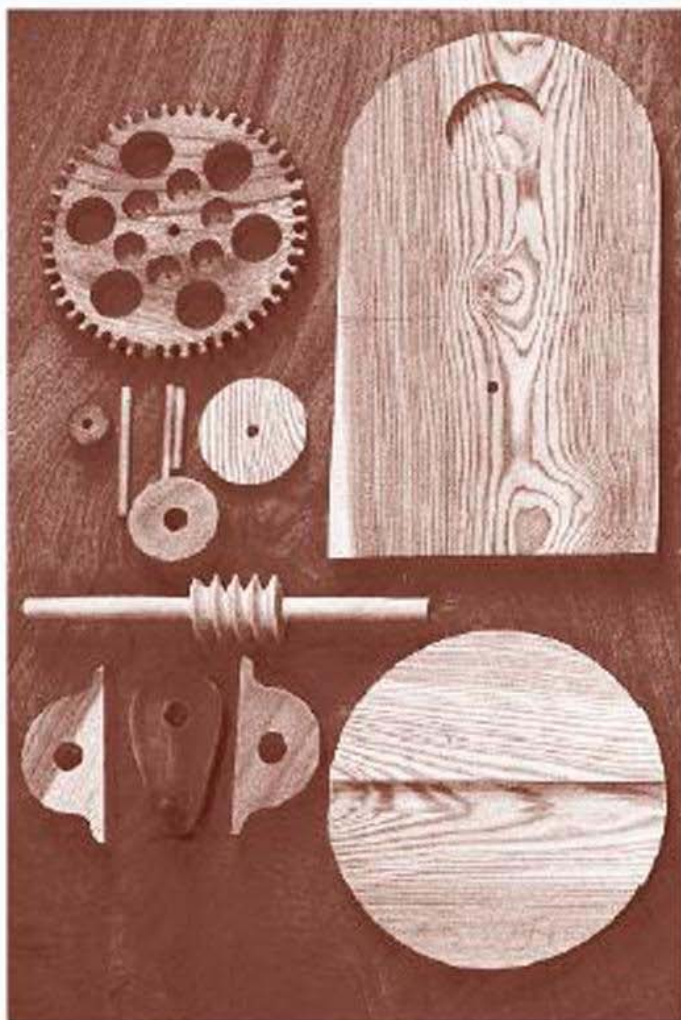

FIGURE 20-12
- 1** Lay out all the component parts (Figure 20-12) and check them over for potential problems. Make sure that the wheel is free from splits, with all the teeth intact, and the worm drive is as near perfect as you can make it.